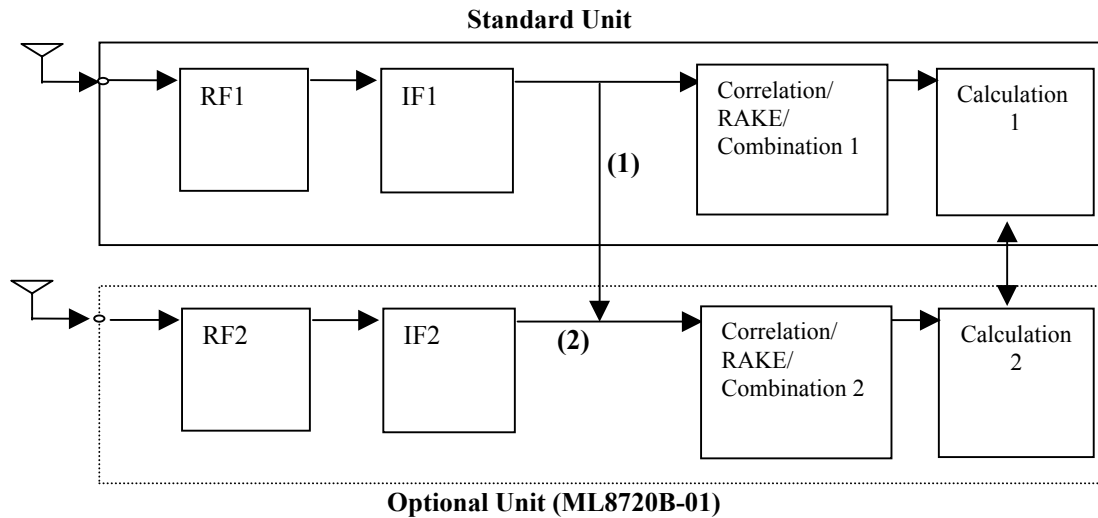

Figure2: Block Chart
In receiving transmit diversity signal, the signal is inputted only from ANT1 INPUT shown in Figure2.
Inputted received signal is branched via RF1 and IF1, then transmitted to the correlation/RAKE/combination section of each unit. (The signal is distributed to optional unit via route (1) of Figure2)